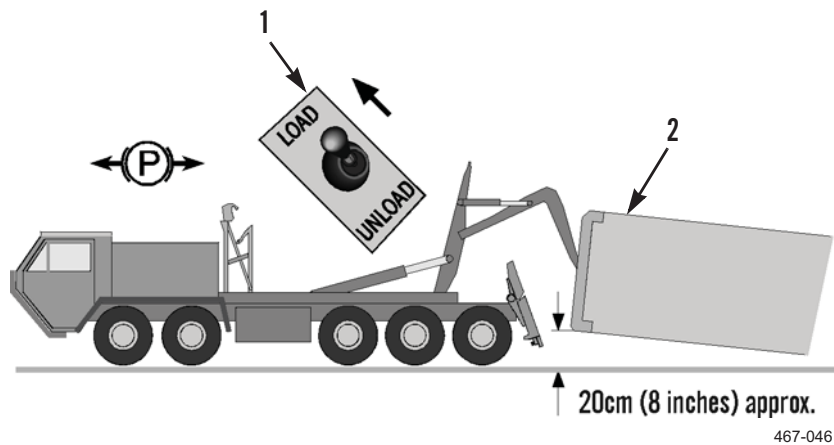

Figure 9. Joystick Set at Load.
2. Keeping engine at idling speed, set joystick (Figure 9, Item 1) to LOAD (PLS: TM 9-2320-364-14&P, HEMTT: TM 9-2320-326-14&P) to raise front of container (Figure 9, Item 2) approximately 8 in. (20 cm) from ground. At this point, release parking brake.